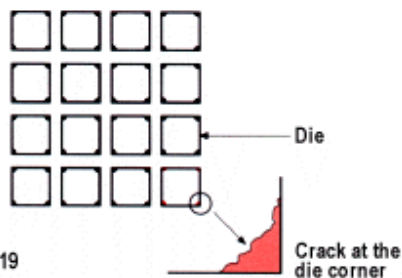

Figure 19
**Problem D:** Chipping and large cracks on the top of the substrate mainly at the die corners caused by die movement during the cutting process (figure 19).